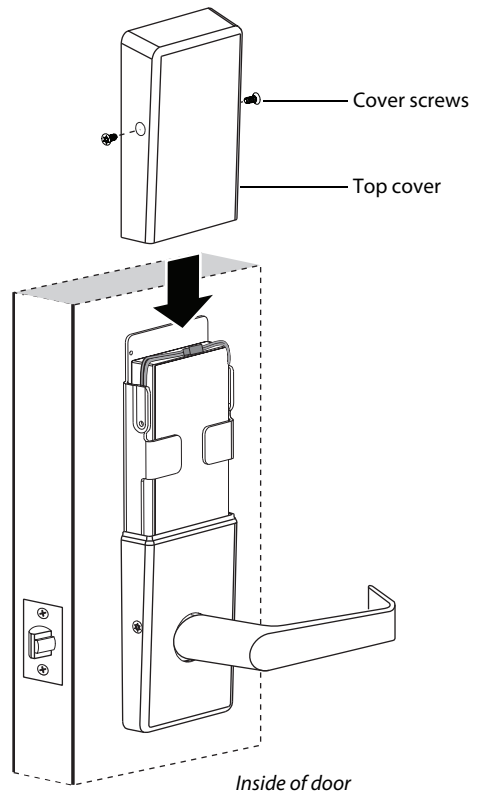

Figure 21 Installing the top cover
- 2 Use two cover screws to secure the cover to the side of the fire plate, as shown in Figure 21.